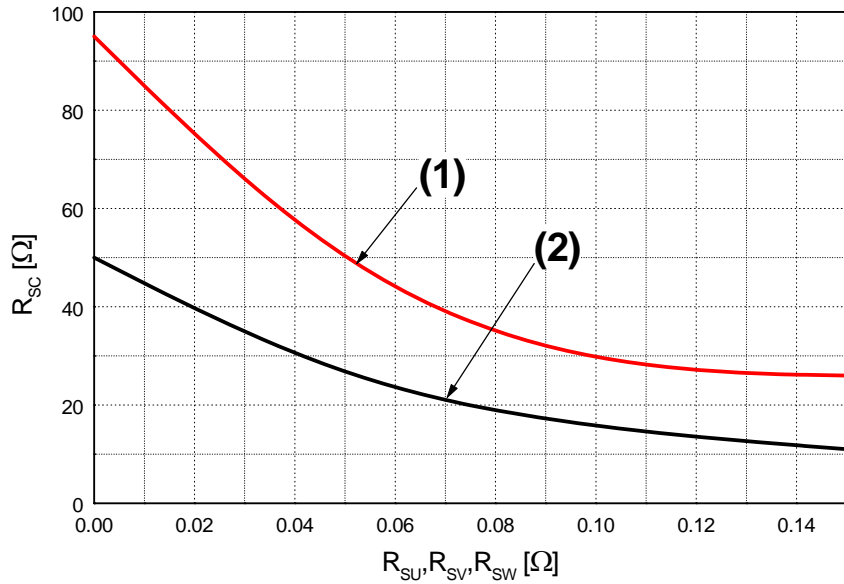

Figure 6. R_{sc} Variation by Change of Shunt Resistors (R_{SU}, R_{SV}, R_{SW}) for Short-Circuit Protection
- Short-circuit protection is functioning only at the low-sides. It would be recommended that the value of the external sensing resistor (R_{SC}) should be selected around 50 Ω in order to make the SC trip-level of about 15A. at the shunt resistors (R_{SU} , R_{SV} , R_{SW}) of 0 Ω . For the detailed information about the relationship between the external sensing resistor (R_{SC}) and the shunt resistors (R_{SU} , R_{SV} , R_{SW}), please see Figure 6.